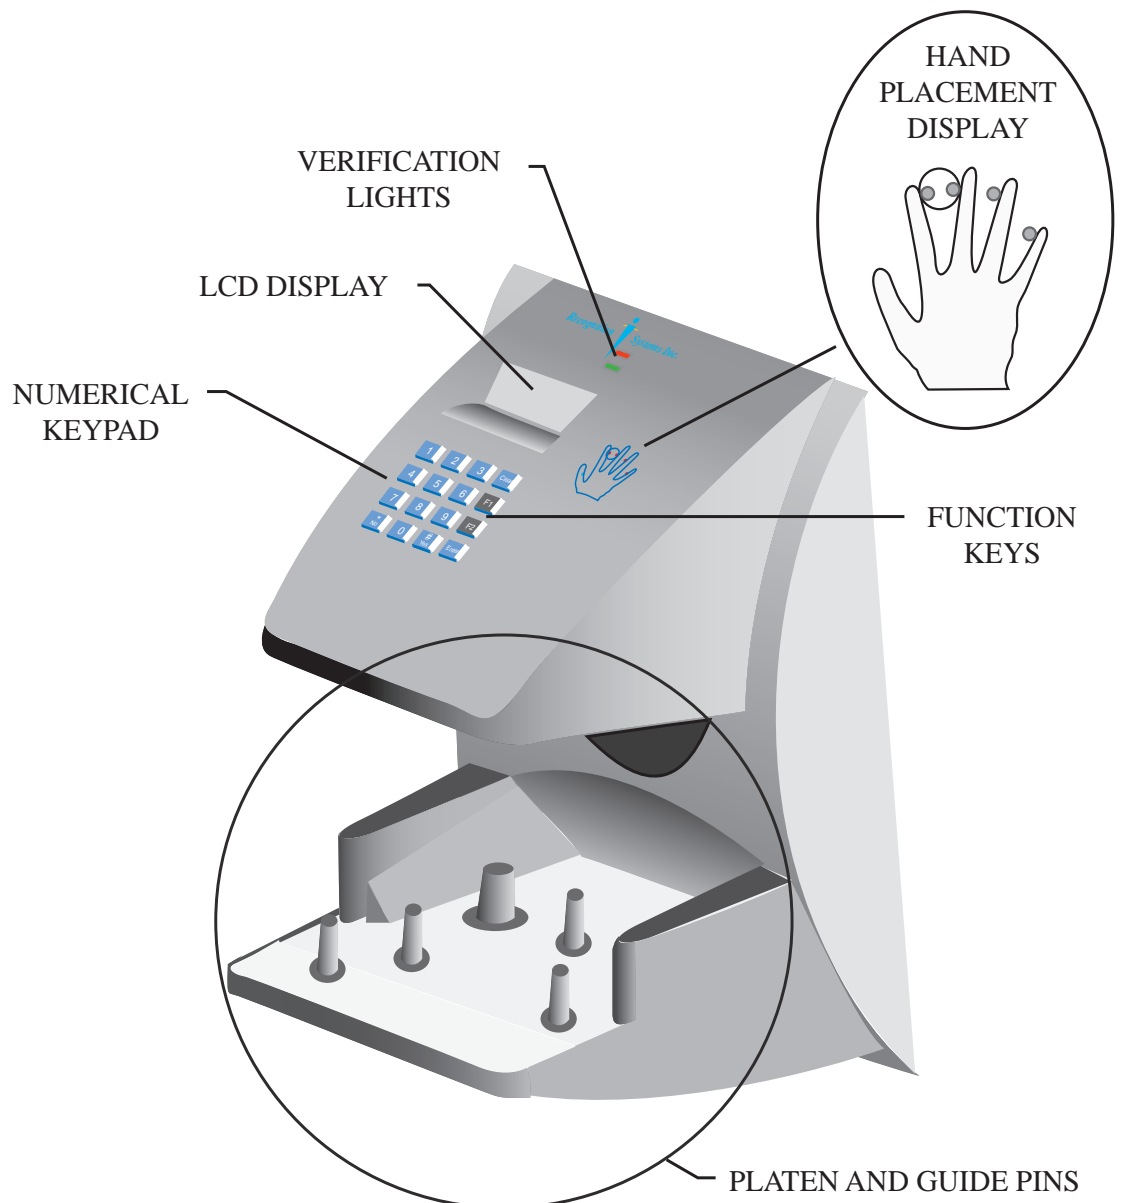

Figure 1-1: The HandPunch 2000
The HandPunch is a time and attendance terminal designed for use with time and attendance software. Refer to Figure 1-1 on page 5 when reviewing the information in this section.
The HandPunch has an integrated keypad for ID entry (see Figure 1-1). The **CLEAR** and **ENTER** keys are used for data entry and programming.
1. The Platen is the flat surface at the base of the HandPunch (see Figure 1-1). This is where users place their hands for enrollment and verification. It has guide pins to assist positioning the fingers during use.